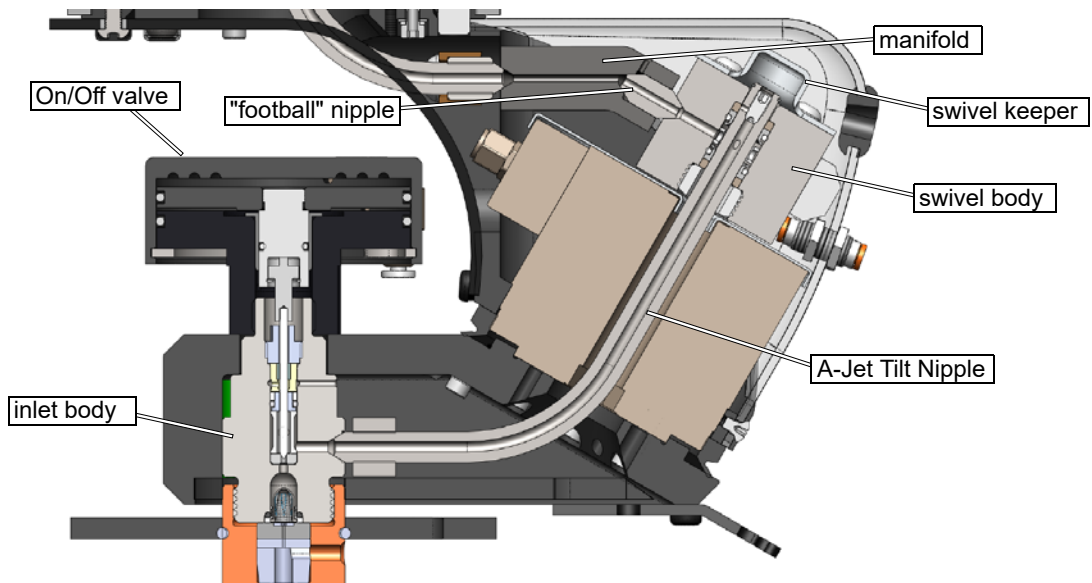

Figure 62
6. Push back the **manifold** from the **swivel body** to expose the **'football' nipple** (Figure 62) connecting the **manifold** with the **swivel body**. Use care to avoid the **electrical cables**. If the **cable sheath** is cut, water can leak into the **actuator**.